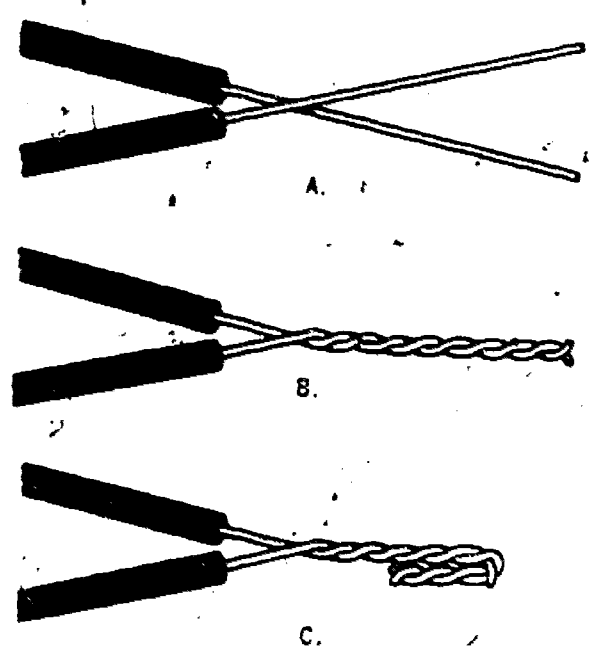

Figure 9. Pigtail Splice
3. Cross the wires as illustrated in view A, figure 9.
4. Twist the wires as illustrated in view B, figure 9.
6. Bend the ends back as illustrated in view C, figure 9.
- 2. Pigtail the three blue wires (refer to figure 9, page 5).